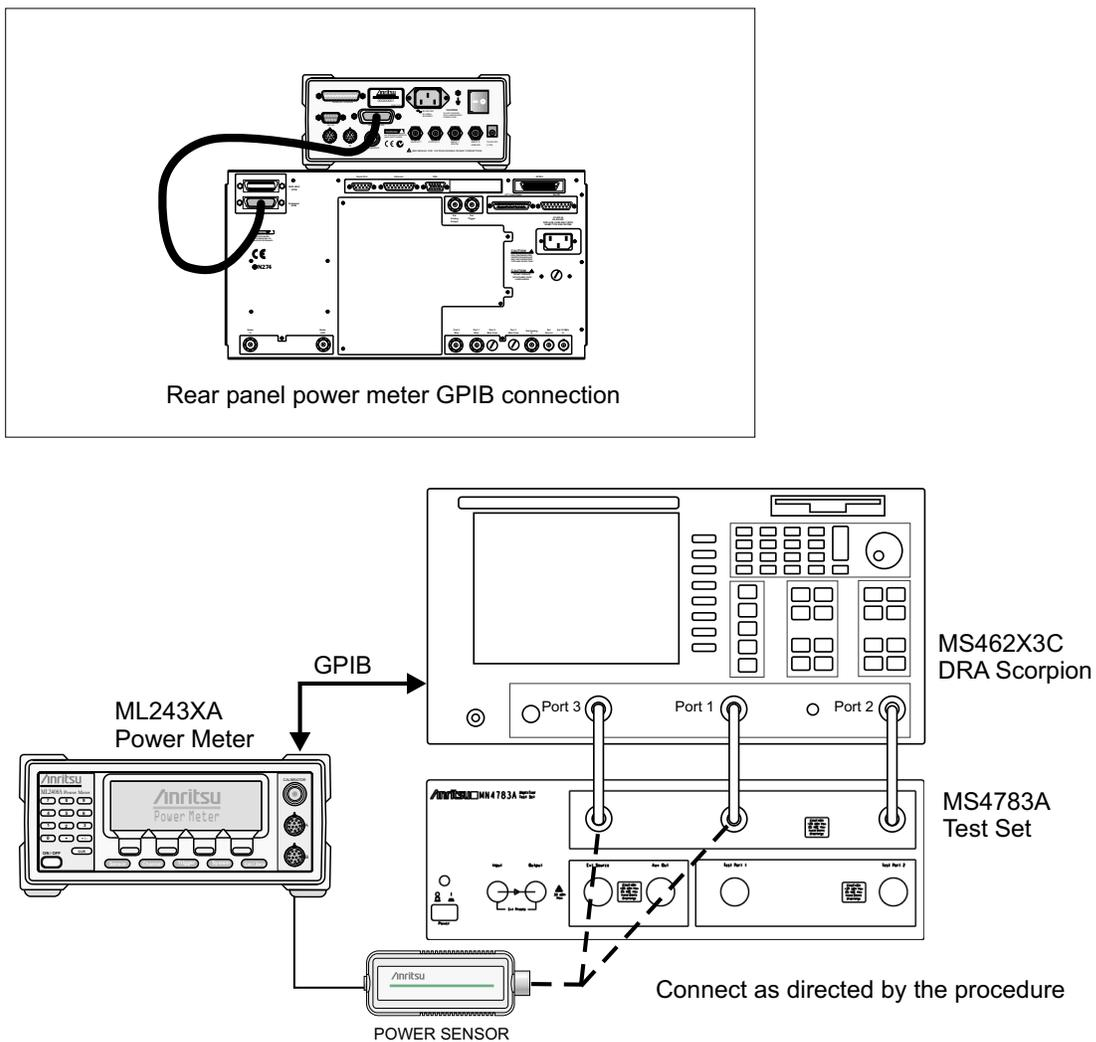

Figure 4-2. Test Equipment Setup for Combiner Check
Setup: Set up the equipment as shown in Figure 4-2.
- Step 19.** Disconnect the N male connector of the interconnect RF cable from the “To Port 1” front panel connector. Refer to Figure 4-2.
- Step 25.** Disconnect the N male connector of the interconnect RF cable from the “To Port 3” front panel connector. Refer to Figure 4-2.